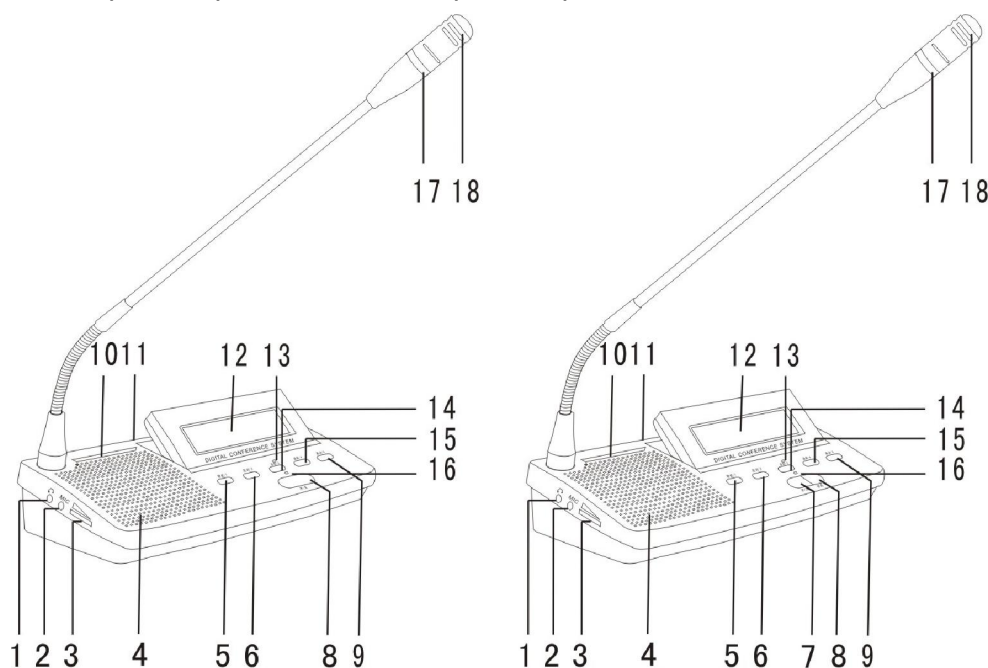

fig.3
Sets the audio level of the monitoring loudspeaker of the stations (figure 3 – ref. 5)
When this mode is selected, the display will read FIFO MODE (First In-First Out), plus the number of delegates who can speak simultaneously. In this mode, the H-7300 keeps track of the order in which the delegate stations are activated. Once the preset limit of simultaneous delegates has been reached, and a new delegate presses the **MIC ON/OFF** key (**fig. 3 ref. 5**) on his microphone base, the FIRST station that was active when this limit was reached will be made inactive, and the new delegate station will be activated.
When the PRESIDENT presses the **PRIORITY** key (**fig. 3, ref. 6**), all DELEGATES will be excluded, and the DELEGATE microphones will not reactivate when their **MIC ON/OFF** key is pressed. These will remain excluded until the PRESIDENT again presses the **MIC ON/OFF** key.
When the PRESIDENT presses the **PRIORITY** key (**fig. 3, ref. 6**), all DELEGATES will be excluded, but the DELEGATE microphones will be reactivated normally when their **MIC ON/OFF** keys are pushed.
All activated DELEGATE stations will be automatically deactivated after 45 seconds of inactivity. In order to speak again the delegate will have to press MIC ON/OFF again (**fig. 3, ref. 5**)
When the PRESIDENT presses the **PRIORITY** button (**fig. 3, ref. 6**), the DELEGATE speaker monitors will reproduce a warning tone.
When the PRESIDENT presses the **PRIORITY** button (**fig. 3, ref. 6**), the DELEGATE speaker monitor will not produce a warning tone